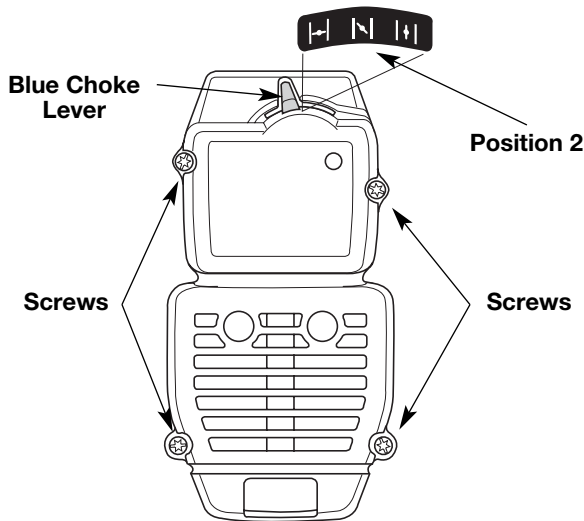

Fig. 17
- Remove the four (4) screws securing the air filter/muffler cover (Fig. 17). Use a T-20 Torx bit screwdriver.
2. Insert the four (4) screws into the holes in the air filter/muffler cover (Fig. 17) and tighten.